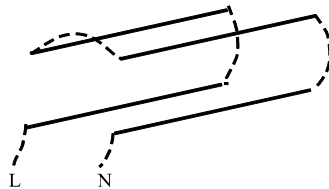
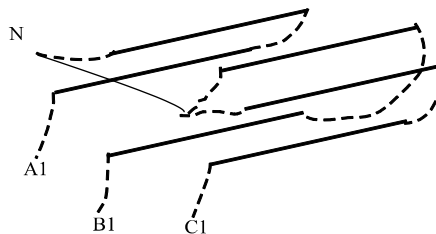

Fig.6. - Element Connections - 4 elements
Fig.8. - Element Connections - 6 elements, 3 phase
*STF: Attach the braids according to the notes made, or according to the appropriate diagram, fig.6 to fig.8. Use the special tools (or finger pressure) to fit the clips. Take care that clips do not touch each other or any other metal parts.*